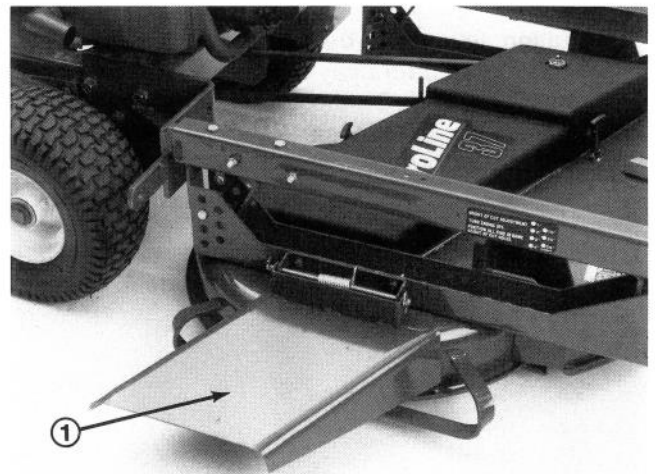

Figure 7
2. Securing discharge chute (Fig. 7) to deck with (2) capscrews, lock washers and wing nuts previously securing discharge cover to deck channel.